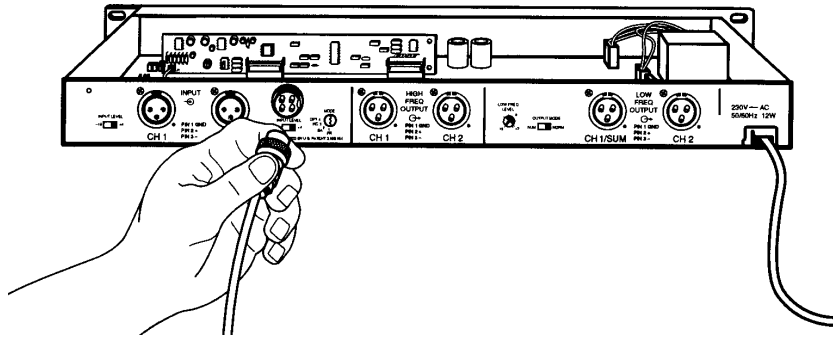

Figure 13. External Harness Connection
A. Attach the external harness to the internal harness connector (**Figure 13**) by turning the notch on the harness to the right.
NOTE: Refer to **Figures 13 through 15** and the installation instructions for connecting the external protection circuit harness.